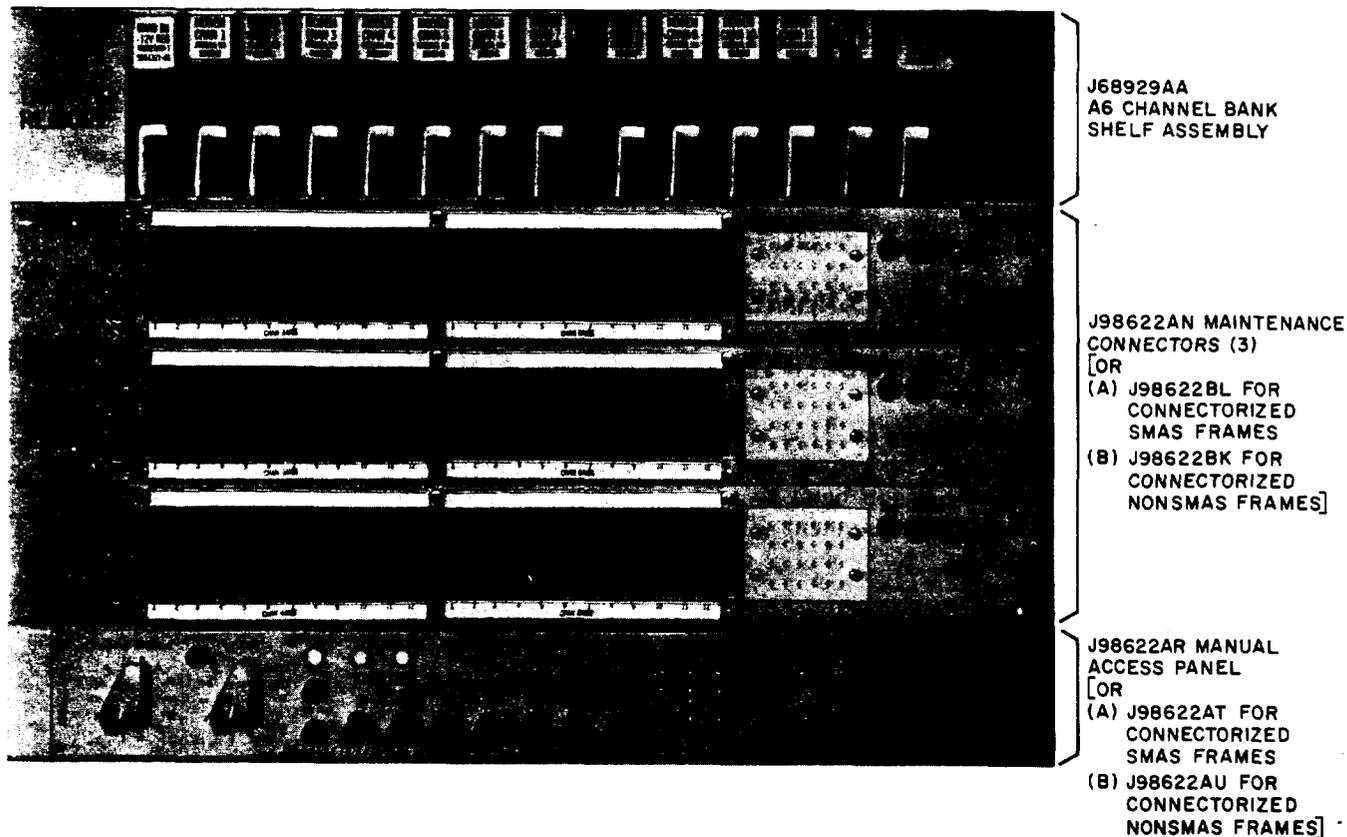

Fig. 1—A6 Channel Bank, Maintenance Connector, and Manual Access Panel
The J68929AA A6 channel bank (Fig. 1) is a frequency-division multiplex terminal that translates 12 voice-frequency (VF) channels to the 60- to 108-kHz group band in its transmitting section and translates the 60- to 108-kHz group band to 12 VF channels in its receiving section. When used in the J98626() unitized terminal equipment (UTE), the A6 channel bank is designated J68929AA (L1, L4, L5). It consists of: